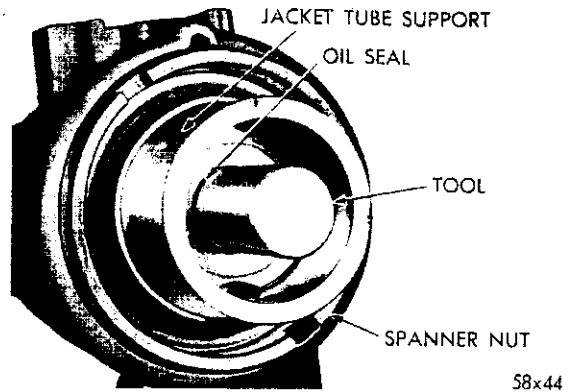

Fig. 37—Installing the Worm Shaft Upper Seal
(1) Install the worm shaft upper oil seal using Tool C-3650 (Fig. 37) (with the lip of the seal toward the bearing).